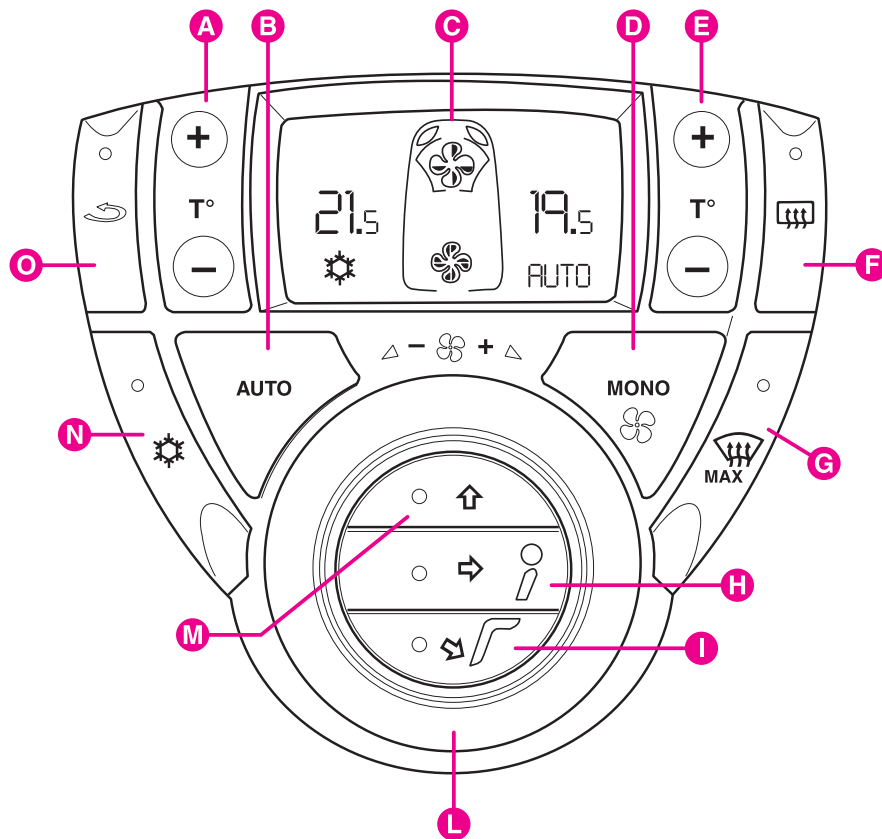

fig. 88
**Legend fig. 88**
• **driver's and passenger's side temperature alignment (MONO) fig. 88 (for versions without additional fans):** this is possible by pressing button **D**, so a single temperature is reached inside the passenger compartment.